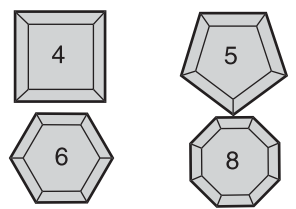

FIG 28
- Clamp the workpiece and align the tool as shown in Figure 28.